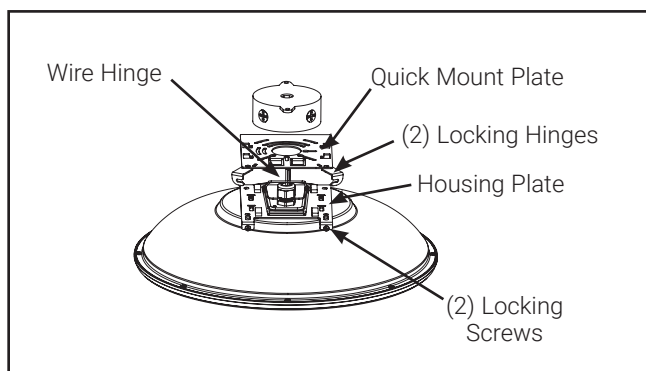

Figure 3
3. Unhook quick mount plate from the wire hinge (FIG. 3).